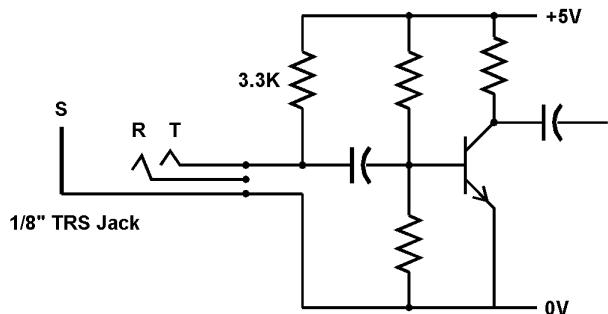
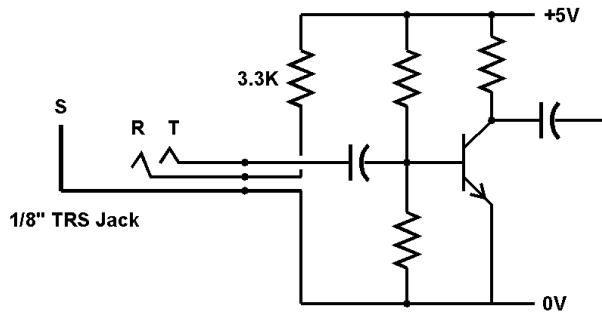

Fig A6-2a Conceptual Laptop Mic Input #1
Fig A6-2b Conceptual Laptop Mic Input #2
**Laptop Mic Inputs** vary widely, and those who have studied them extensively say there are no real standards. Fig A6-2a is the most common configuration. Fig A6-2b is another. The tip of the 1/8-inch connector is the mic input, with the connector shell as the return. The ring of the connector is +5VDC through a 3.3K resistor (measured on my IBM Thinkpad). Connect a dynamic mic between tip and sleeve. This works perfectly on my IBM T22, but MY IBM T41 uses a somewhat different input circuit that is noisy and unstable with this simple connection. I tamed it by adding 0.22  $\mu$ F between tip and ring. An electret ham mic may work with audio to tip and power to ring. Or you may need to add resistance in series with the ring. Or you may need the capacitor. Or both. Plantronics headsets work great with my IBM T-series laptops with the mic going between tip and sleeve of the TRS mic jack and a 36K resistor between tip and ring.